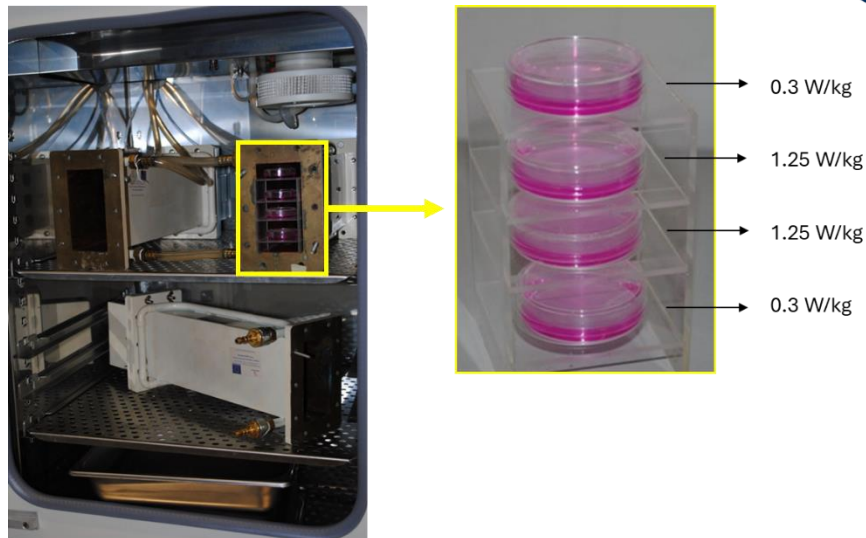

Figure 2. Plexiglas stand hosting cell culture dishes. A higher SAR value is obtained in the central samples with respect to the distal ones (4:1 SAR ratio).
- Locate the dishes on the Plexiglas stands (figure 2), insert the stands in each waveguide at the required distance from the short-circuit by using the plastic spacer and close each waveguide with the metallic slab. Perform this procedure two hours before starting exposure to allow the sample to acclimate in the waveguides.